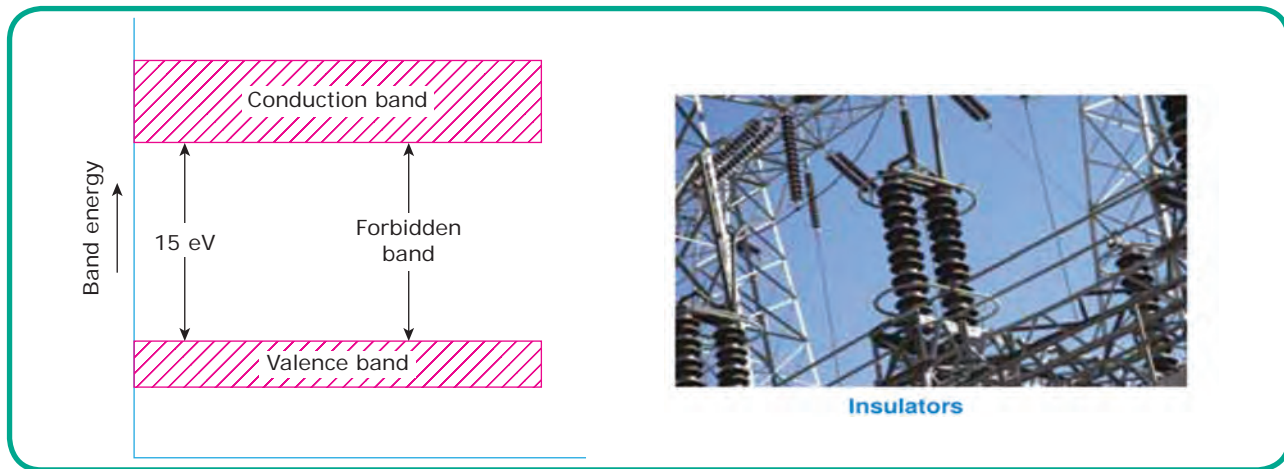

Figure 3.15 Insulator and its energy band
- (b) **Insulators:** Figure 3.15 shows the forbidden energy gap of the insulators which is very large (15 eV), e.g. wood, glass, etc.